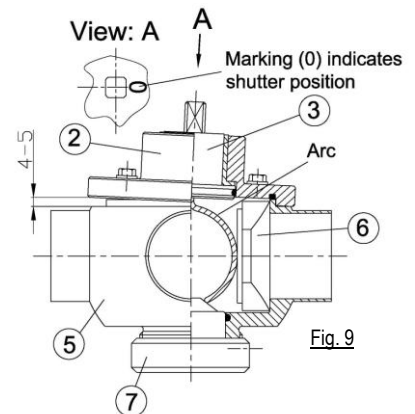

Fig. 9
2. Insert bearing bush (9) into bearing cap (2).
3. Insert O-rings (4), (8) and (10).
4. Assemble pivoted axle with arc (3) and bearing cap (2). Pay attention to the marking (0) on the square pin of the pivoted axle (3) → indicates the shutter position (6) (see Figure 9).
5. Insert shutter (6) into valve casing (5).
6. Fit the pivoted axle with the arc (3) together with bearing cap (2) to the valve casing (5) as follows:
- a) The pivoted axle with arc (3) is designed that it exerts a defined pressure on the shutter (6) during assembly. On account of the preload characteristics, the bearing cap (2) declines approx. 0.16-0.20in (4-5mm) off the valve casing (5) on the opposite side of the shutter (see Figure 9).
- c) Fasten the handle (1) in the desired position.